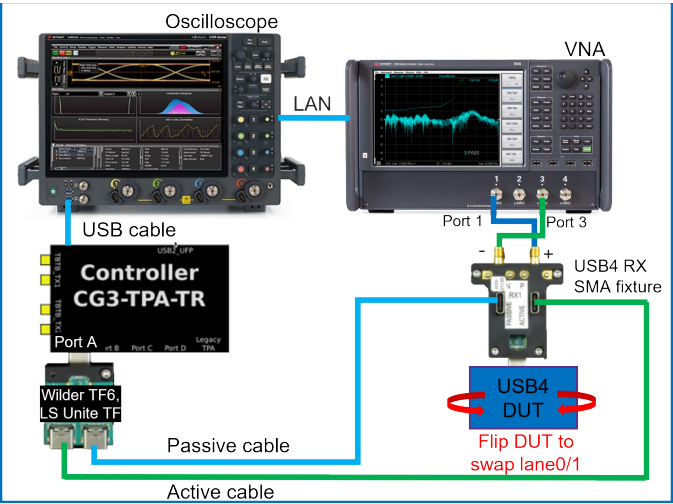

Figure 124 Tx Return loss test setup with Rx SMA test fixture
- 1 For the physical connections between the DUT & the Oscilloscope, see the connection diagrams in Figure 124 and Figure 125.